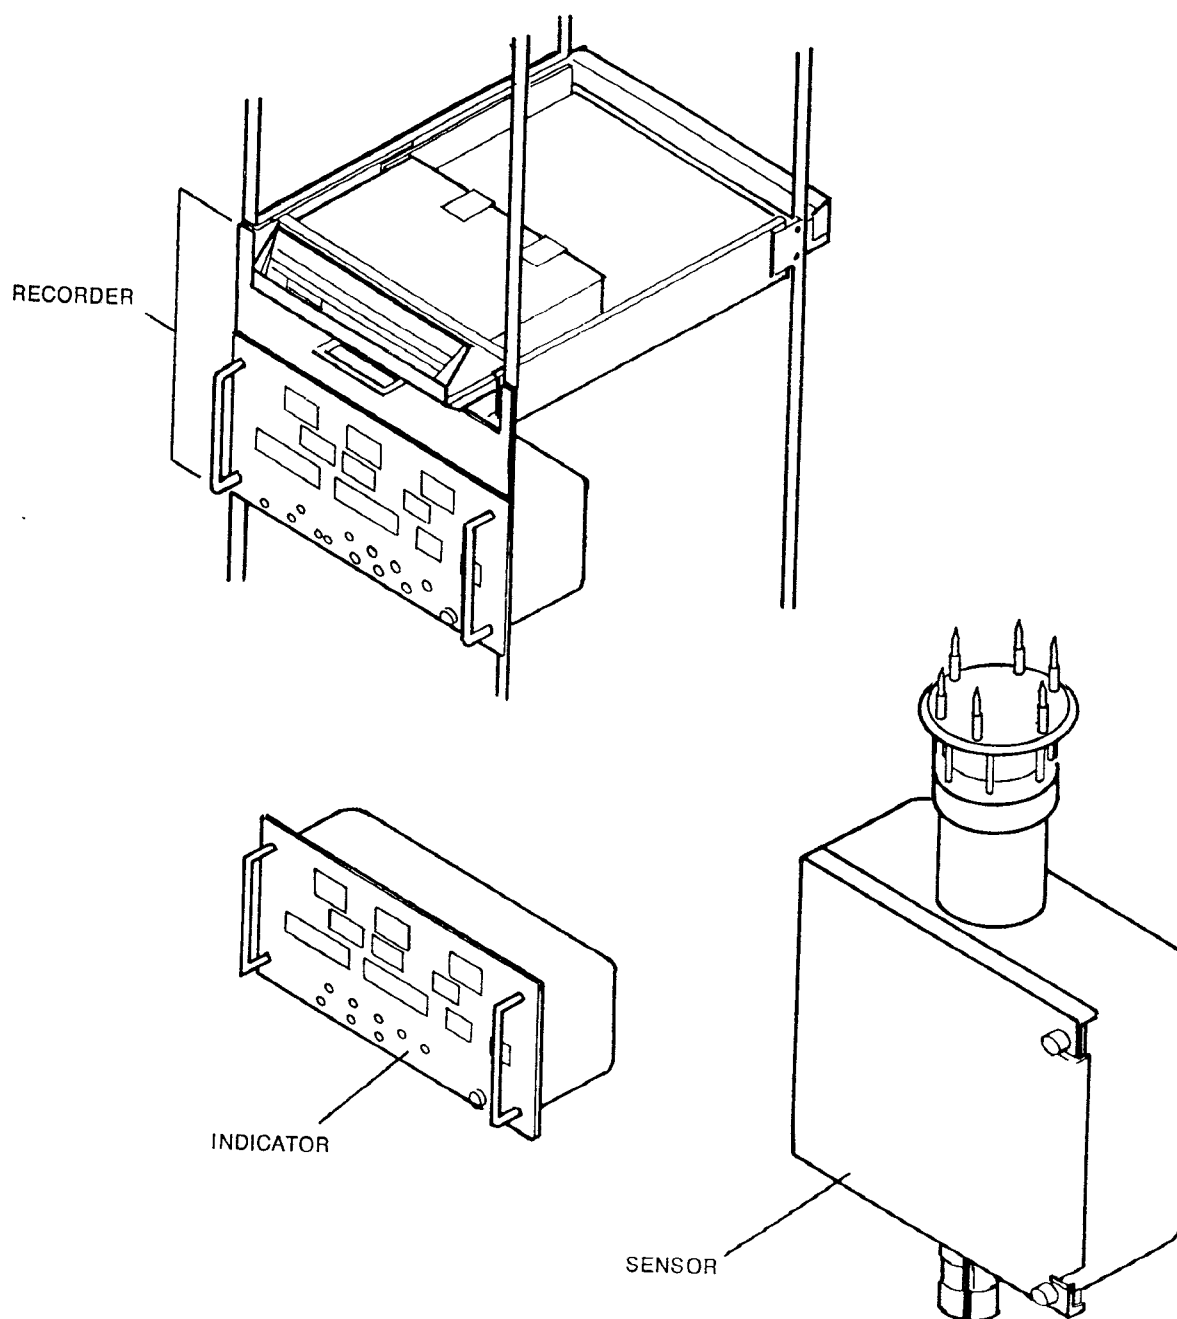

FIGURE 1-1. Wind Measuring Set AN/FMQ-13(V)
**1-1.3 System Configuration.** The wind measuring set (FIGURE 1-1) consists of the following major assemblies: